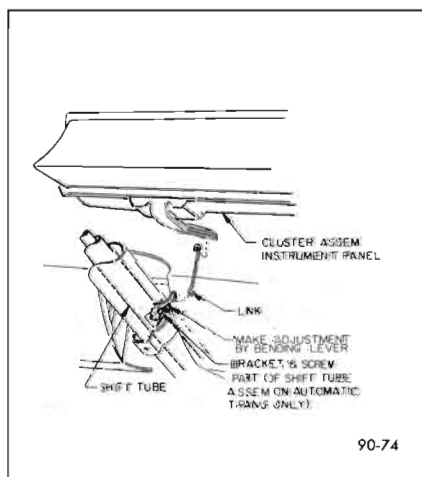

Figure 90-74—Removing Shift Indicator (45-46-48-49000 Series)
7. Remove shift indicator link from lever. See Figure 90-74.